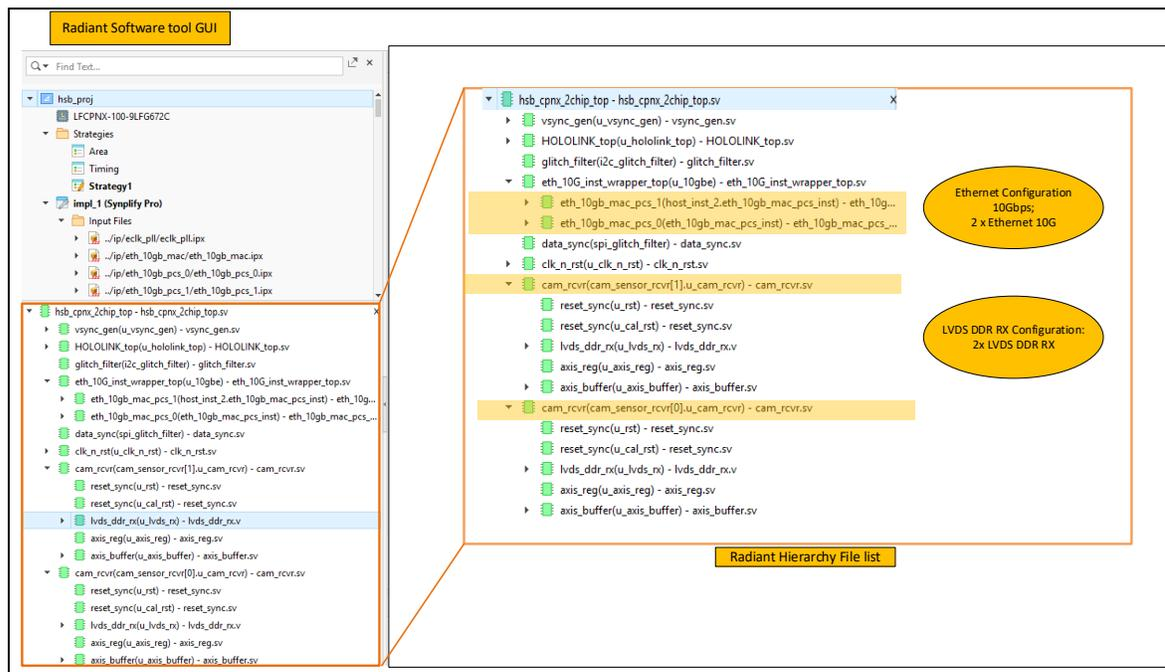

Figure 4.17. Lattice Radiant Software Hierarchy File List
5. Verify the reference design configuration. Review the Lattice Radiant software hierarchy file list and the clock summary from the place-and-route timing report. Figure 4.17 shows the reference design in the Lattice Radiant software hierarchy file list. The reference design is now ready for compilation and implementation.